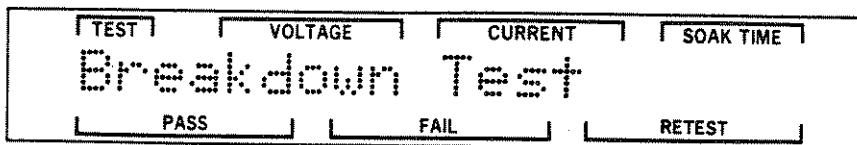

Figure 3-93. Breakdown Test Screen
STEP 16. Press the DOWN pushbutton five times until the Breakdown Test screen is displayed. Figure 3-93 is an illustration of this screen.